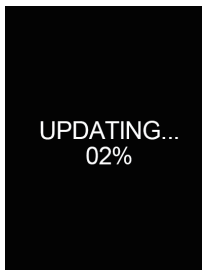

Figure 31
③ After completing step 2, press the Up button briefly to upgrade the program. The tester interface will show the progress of the upgrade (Figure 31), during which a stable connection between the tester and the computer needs to be maintained. After the progress reaches 100%, the upgrade is completed. The tester will automatically jump to the user's main interface, the user can now disconnect for testing.